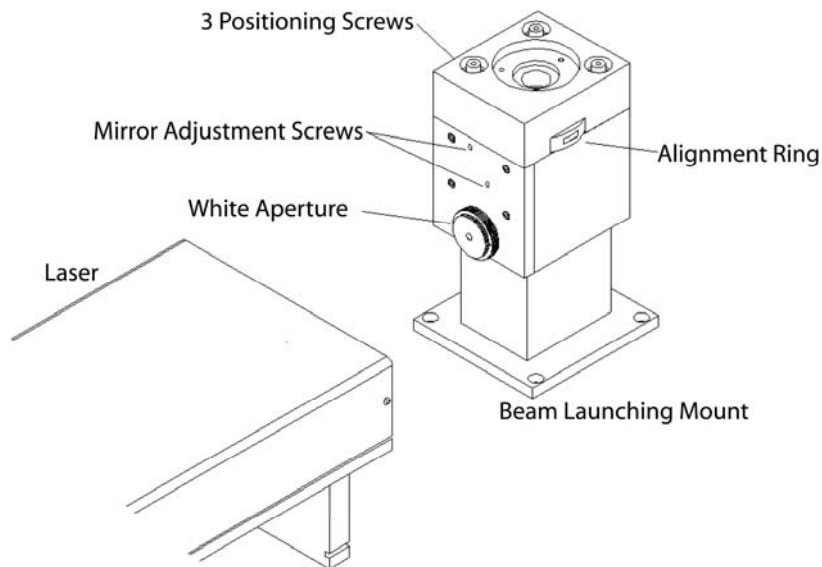

Figure 1. Installing the Beam Launching Mount with the Laser
10. With the white pin hole aperture in the Beam Launching Mount upper cavity, where the beam exits, adjust the Mirror Adjustment Screws (Figure 1) until the beam is centered on the pinhole. Judge the beam position by looking at the spot on the target.